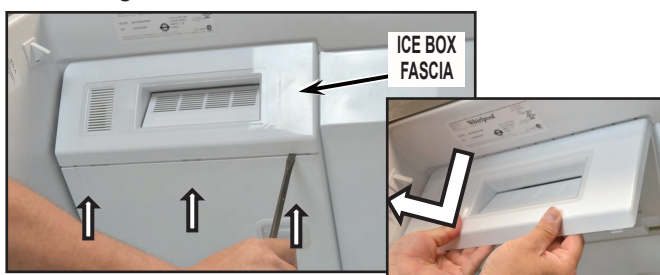

FIGURE 1
4. Remove ice box fascia using a flat blade screwdriver. Pull out bottom of fascia to disengage upper tabs. See *Figure 1*.